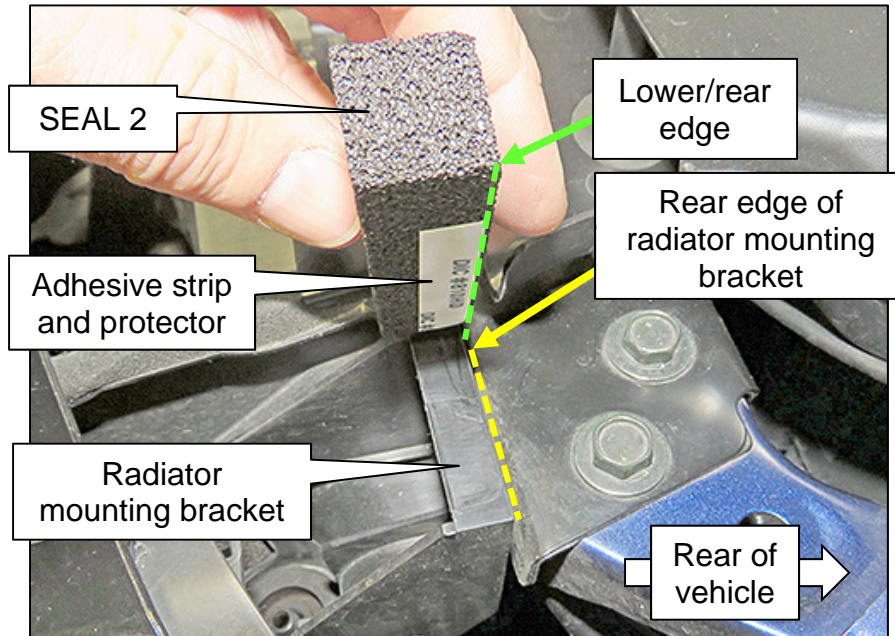
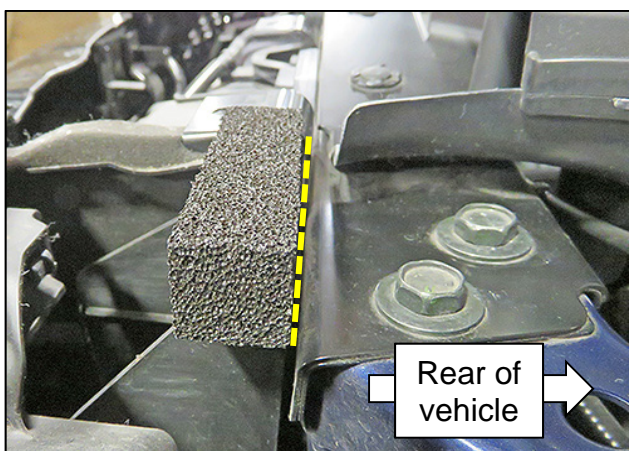

Figure 9
Figure 10
- a. Confirm that SEAL 2 is oriented with the adhesive strip facing down and toward the rear of the vehicle (Figure 9).
- The lower/rear edge of SEAL 2 (Figure 9) is aligned with the rear edge of the radiator mounting bracket where shown in Figure 9 and Figure 10,